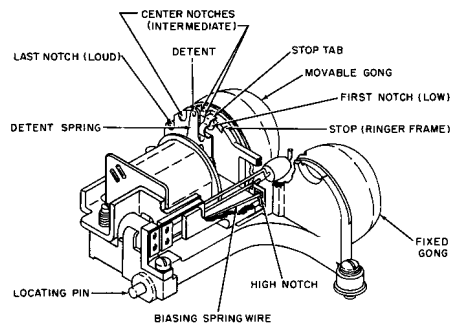

FIGURE 3
4.01 B-type ringers, sent to the field in instruments or shipped separately, have the bias spring located in the high notch (see Figure 3).